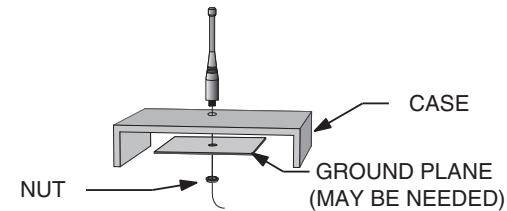

Figure 23: Remote Ground Plane
6. In some applications, it is advantageous to place the module and antenna away from the main equipment (Figure 23). This can avoid interference problems and allows the antenna to be oriented for optimum performance. Always use  $50\Omega$  coax, like RG-174, for the remote feed.